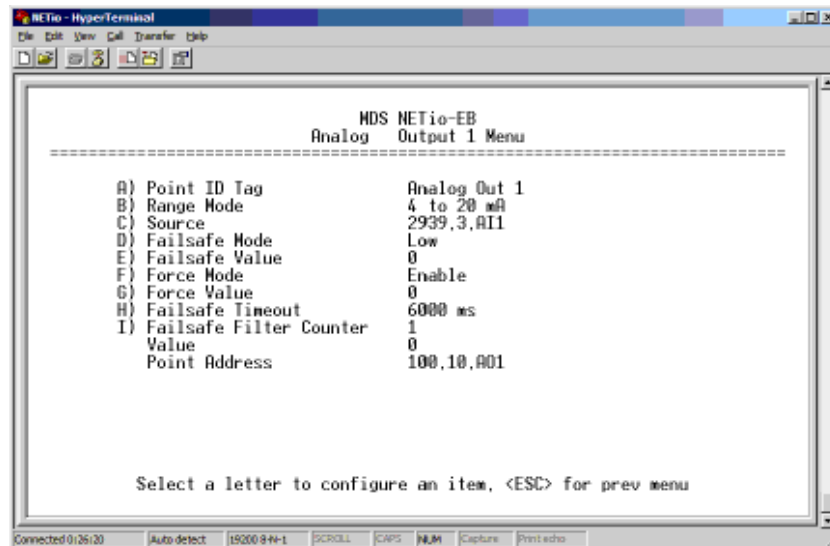

Figure 3-9. Analog Output Menu
Figure 3-9 shows the Analog Output Menu with the source field set to 2939,3,AI 1. This means that this Analog Output will regenerate the signal connected to AI 1 on Unit ID 2939 and Module ID 3.
1. Go to the Analog Output Menu for Analog Output # 1 on the NETioB Module (see Figure 3-9), and select item **C** to enter the source address.